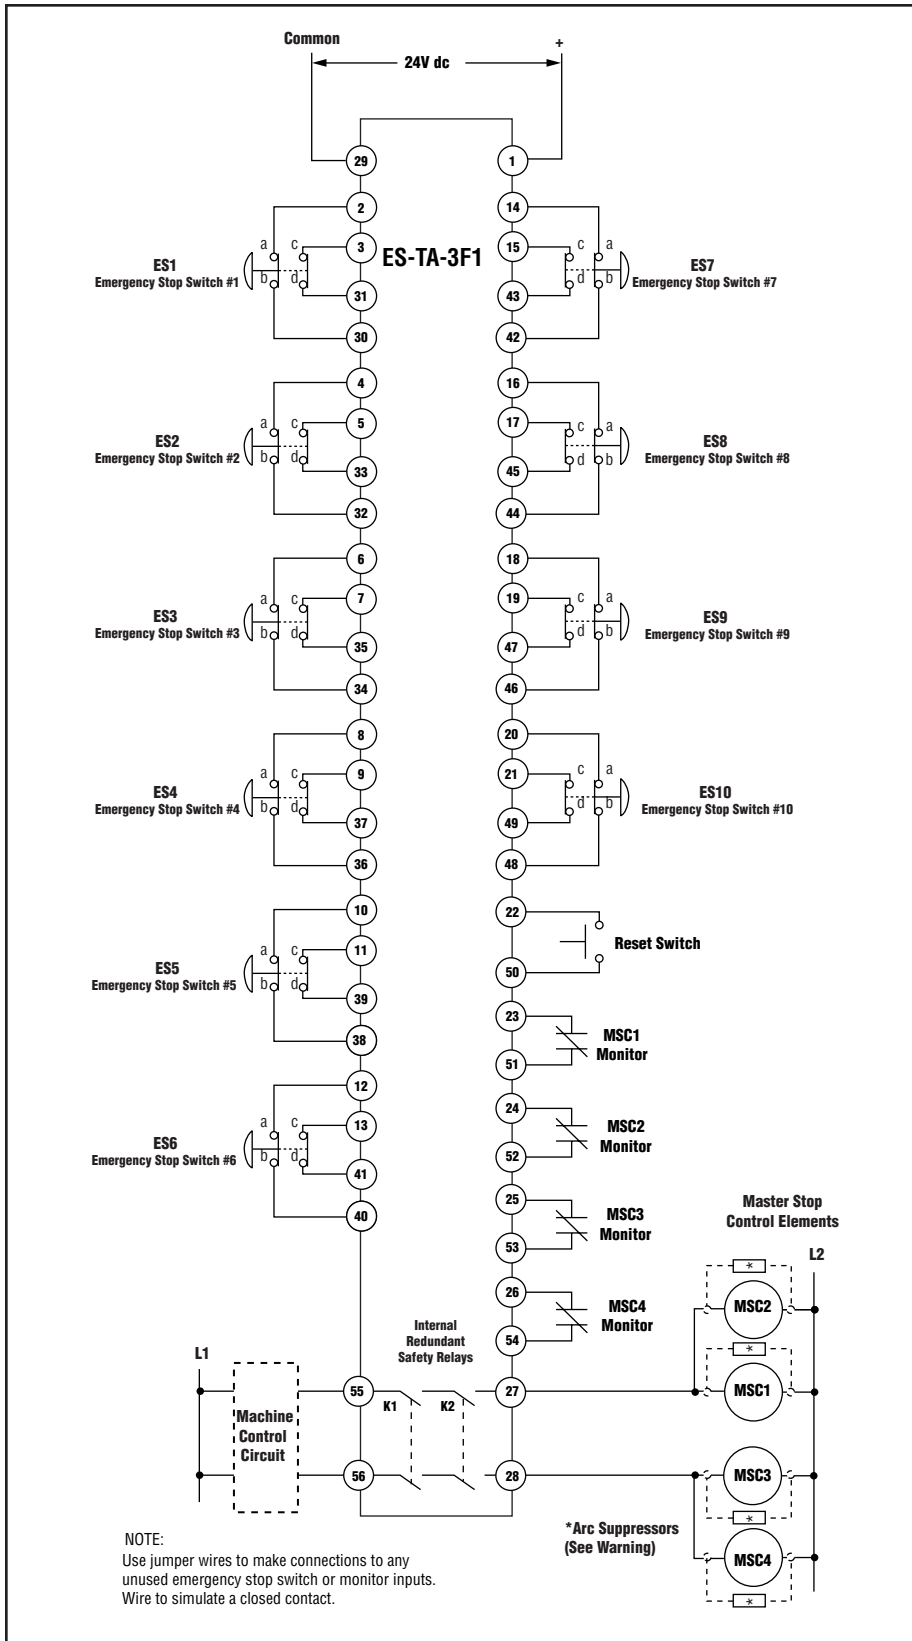

Figure 3. General hookup information for model ES-TA-3F1 Emergency Stop Safety Module
As indicated in Figure 3, a typical Emergency Stop switch offers two redundant switching contacts. In a properly designed machine stop circuit, the opening of either of the two Emergency Stop contacts immediately removes electrical power from the machine control elements which react to stop hazardous machine motion and/or any other machine hazard. This redundancy of stopping control offered by a two-pole Emergency Stop switch is the first step towards control reliability. However, failure or defeat of one of the switch contacts to a short-circuit will go undetected, thereby removing the redundancy, and leaving the Emergency Stop circuit prone to eventual failure.
The model ES-TA-3F1 E-Stop Safety Module connects up to ten Emergency Stop switches to the machine Emergency Stop control elements. The Emergency Stop switches become the inputs to the Safety Module, which monitors the condition of both contacts of each E-stop switch connected to it. The output of the E-stop Safety Module consists of two redundant output switching channels, each of which is the series connection of two force-guided relay contacts (K1 and K2 in Figure 3).
As shown in Figure 3, each Emergency Stop switch must provide two contacts which are closed when the switches are in the “ready” position. Once activated, the Emergency Stop switch must open both contacts. The switch may be returned to the closed-contact position only by a deliberate action (such as twisting, pulling or unlocking). Additionally, NFPA79, section 13.2 Emergency Stop Devices specifies the following switch (“stop control”) requirements:
Connect the two poles of each Emergency Stop switch as shown in Figure 3. The switches in Figure 3 are shown in their “ready” position with both contacts closed. See Product Specifications on page 20 for E-stop switch input requirements.
- 2) Close all E-stop inputs. Ensure all monitoring inputs are closed and that the Reset input is open. (Refer to Figure 3.)
The hookup diagram (Figure 3) shows a generic connection of the ES-TA-3F1 E-Stop Safety Module's two redundant output circuits to Master Stop Control elements MSC1, MSC2, MSC3 and MSC4. A Master Stop Control element is an electrically powered device, external to the Safety Module, which stops the machinery being controlled by immediate removal of electrical power to the machine and (when necessary) by applying braking to dangerous motion (reference ANSI B11.19, section 5.2: "Stop Control"). This stopping action must be accomplished by removing power to either Master Stop Control element.
To satisfy the requirements of Safety Category 4 of prEN 954-1, the Master Stop Control elements must offer a normally closed, force-guided monitor contact. One normally closed monitor contact from each Master Stop Control element is wired to the appropriate terminals on the module (see Figure 3). In operation, if any of the Master Stop Control elements fails to de-energize, the associated monitor contact will remain open. As a result, it will not be possible to reset the E-Stop Safety Module.
It is strongly recommended that one normally closed auxiliary contact of each Master Stop Control element (MSC) be wired as an MSC monitor contact, as shown in Figure 3. If this is done, any inconsistency of action between the MSCs will create a fault condition, which will prevent the E-Stop Module from resetting.